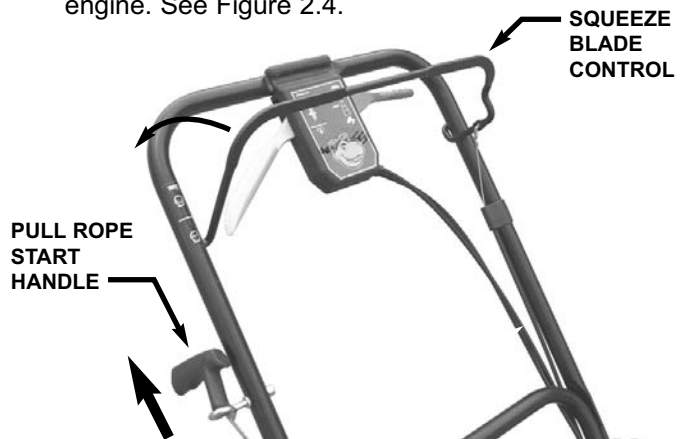

FIGURE 2.4
**2.** Pull blade control against handle. See Figure 2.4.
Manual Start Models: Pull rope start handle to crank engine. See Figure 2.4.